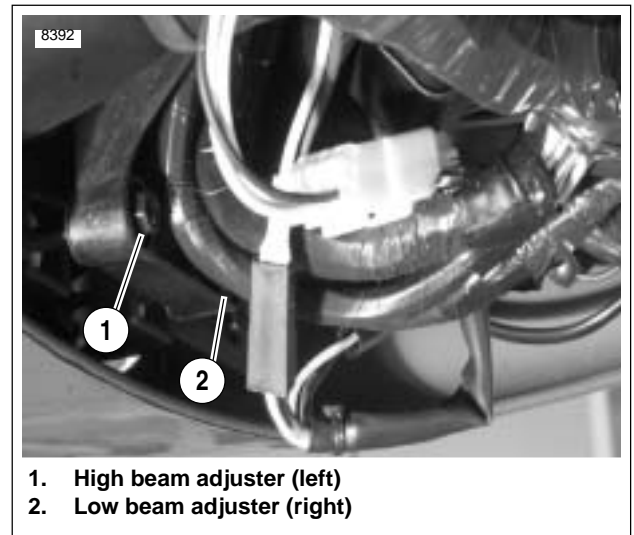

Figure 1-59. Headlamp Height Adjustment
See Figure 1-59. The HIGH Beam adjuster (1) is on the left and the LOW Beam adjuster (2) is on the right underneath the front fairing.